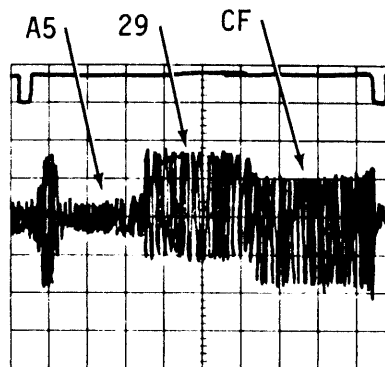

Figure 7-5 Peak Shift Check
7.3.4 Peak Shift Check (Figure 7-5)
2. If required, execute a Write command with the write buffer data pattern set to the combination of 29 and CF, i.e., 50 bytes of 29, 50 bytes of CF, etc. throughout the buffer. Figure 7-5 is based on A5, 29, CF buffer of approximately 170 bytes each.